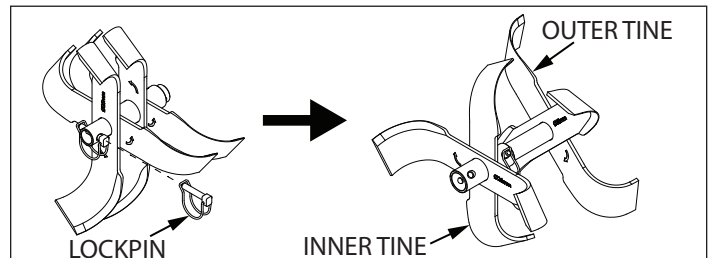

FIGURE 3
SEE FIGURE 3
- a. Wide Tilling - Install according to Steps 5 - 6 and Figures 3 - 5.